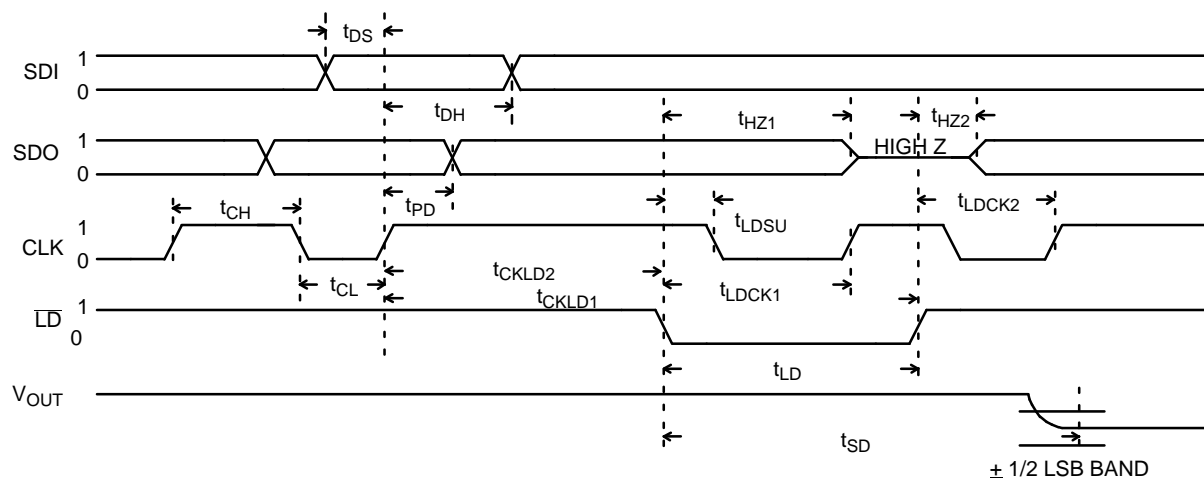

Figure 2. Detail Serial Data Input Timing ($\overline{RST} = "1"$)
- 4 See Figures 2 and 3.
- See Figures 2 and 3.